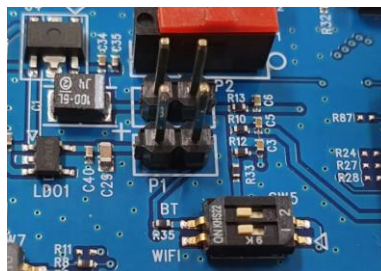

Figure 53. Set up DA16600 EVB jumper
3. Open the DA16600 EVB's power two jumper caps as shown in Figure 53.